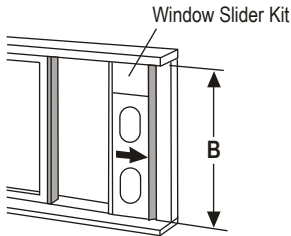

Fig. 10
2. Adjust the length of the Window Slider Kit to the height of the window. Shorten if the height of the window is less than 26.5" (Type I) or 22.1" (Type II). Place the Window Slider Kit into the window opening with one side snugly against the foam (Fig. 10)